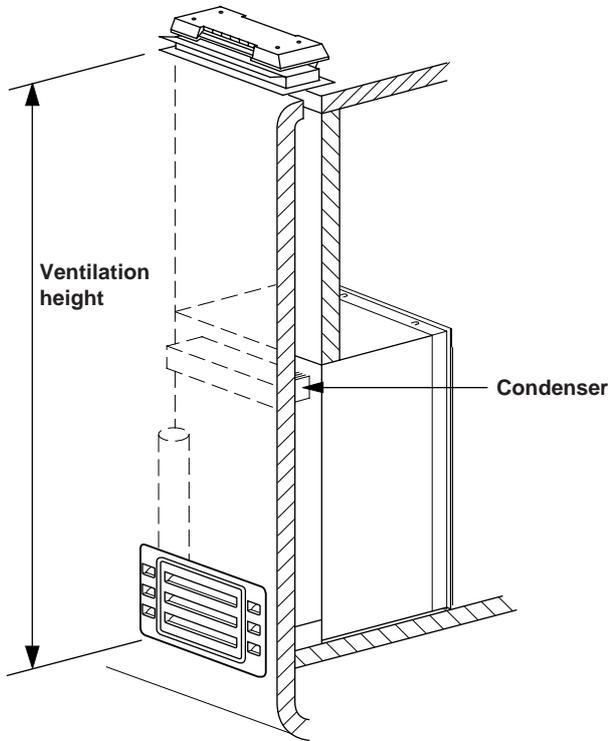

FIG. 9
The method of installation is shown in FIG. 9. It is essential that all maximum or minimum dimensions are strictly maintained as the performance of the refrigerator is dependent on adequate flow of air over the rear of the refrigerator.
**NOTE: Clearance "N" is the distance between the bottom of the lower vent to the roof material. For ventilation height, see table VENTILATION HEIGHTS See Figures 9, and 10.**